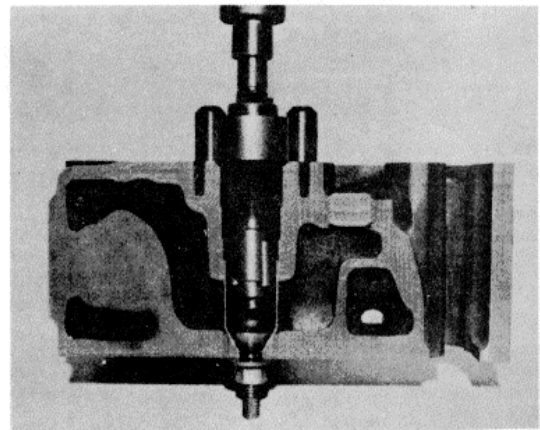

Fig. 2-11 N10222T-880 in upper injector sleeve bore
5. Roll top 1/2 Inch [12.70 mm] area of sleeve with ST-880 Expanding Roller. Fig. 2-11. Use inch-lb [kg m] torque wrench to turn ST-880; turn mandrel until a 75 inch-lb [0.9 kg m] maximum torque reading is obtained on torque wrench.